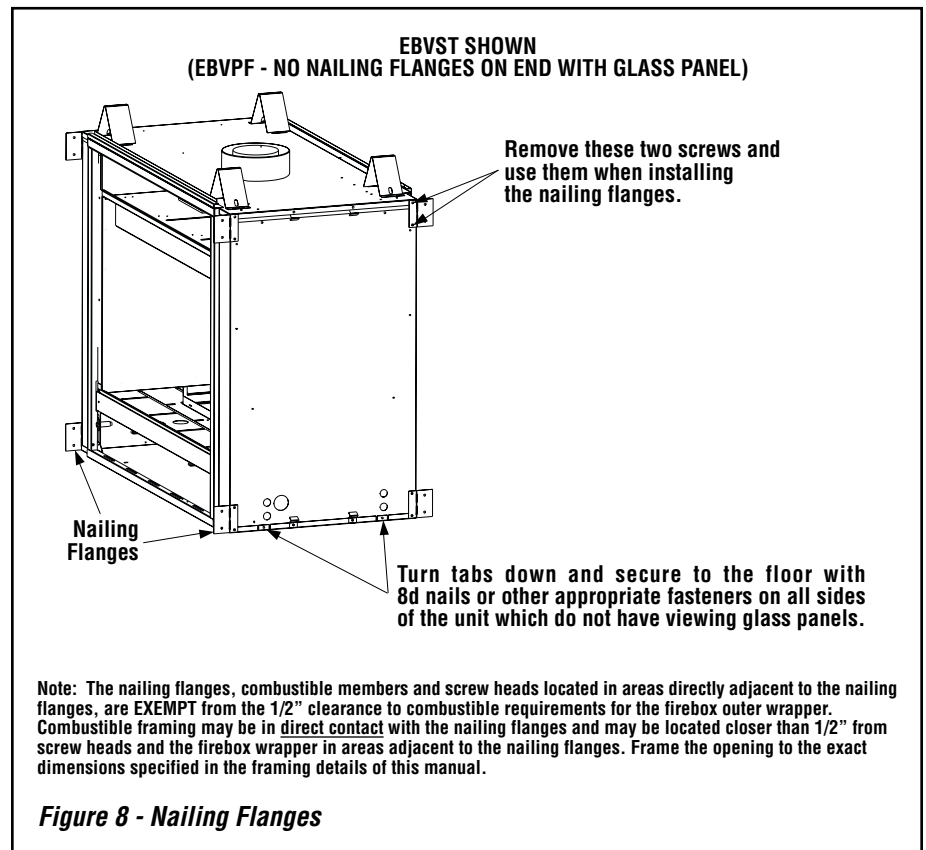

Figure 8 - Nailing Flanges
**NOTE: See Page 9, Step 1 and Figure 8 for clearance requirements to the nailing flange located at each side of the unit and any screw heads adjacent to it.
The fireplace should be secured to the framing at the side(s) and/or rear of the unit using the factory-provided nailing flanges. Install the nailing flanges - 8 (EBVST), 4 (EBVPF) - as shown in **Figure 8** using the existing screws.
Secure the fireplace to the floor as shown in **Figure 8**.